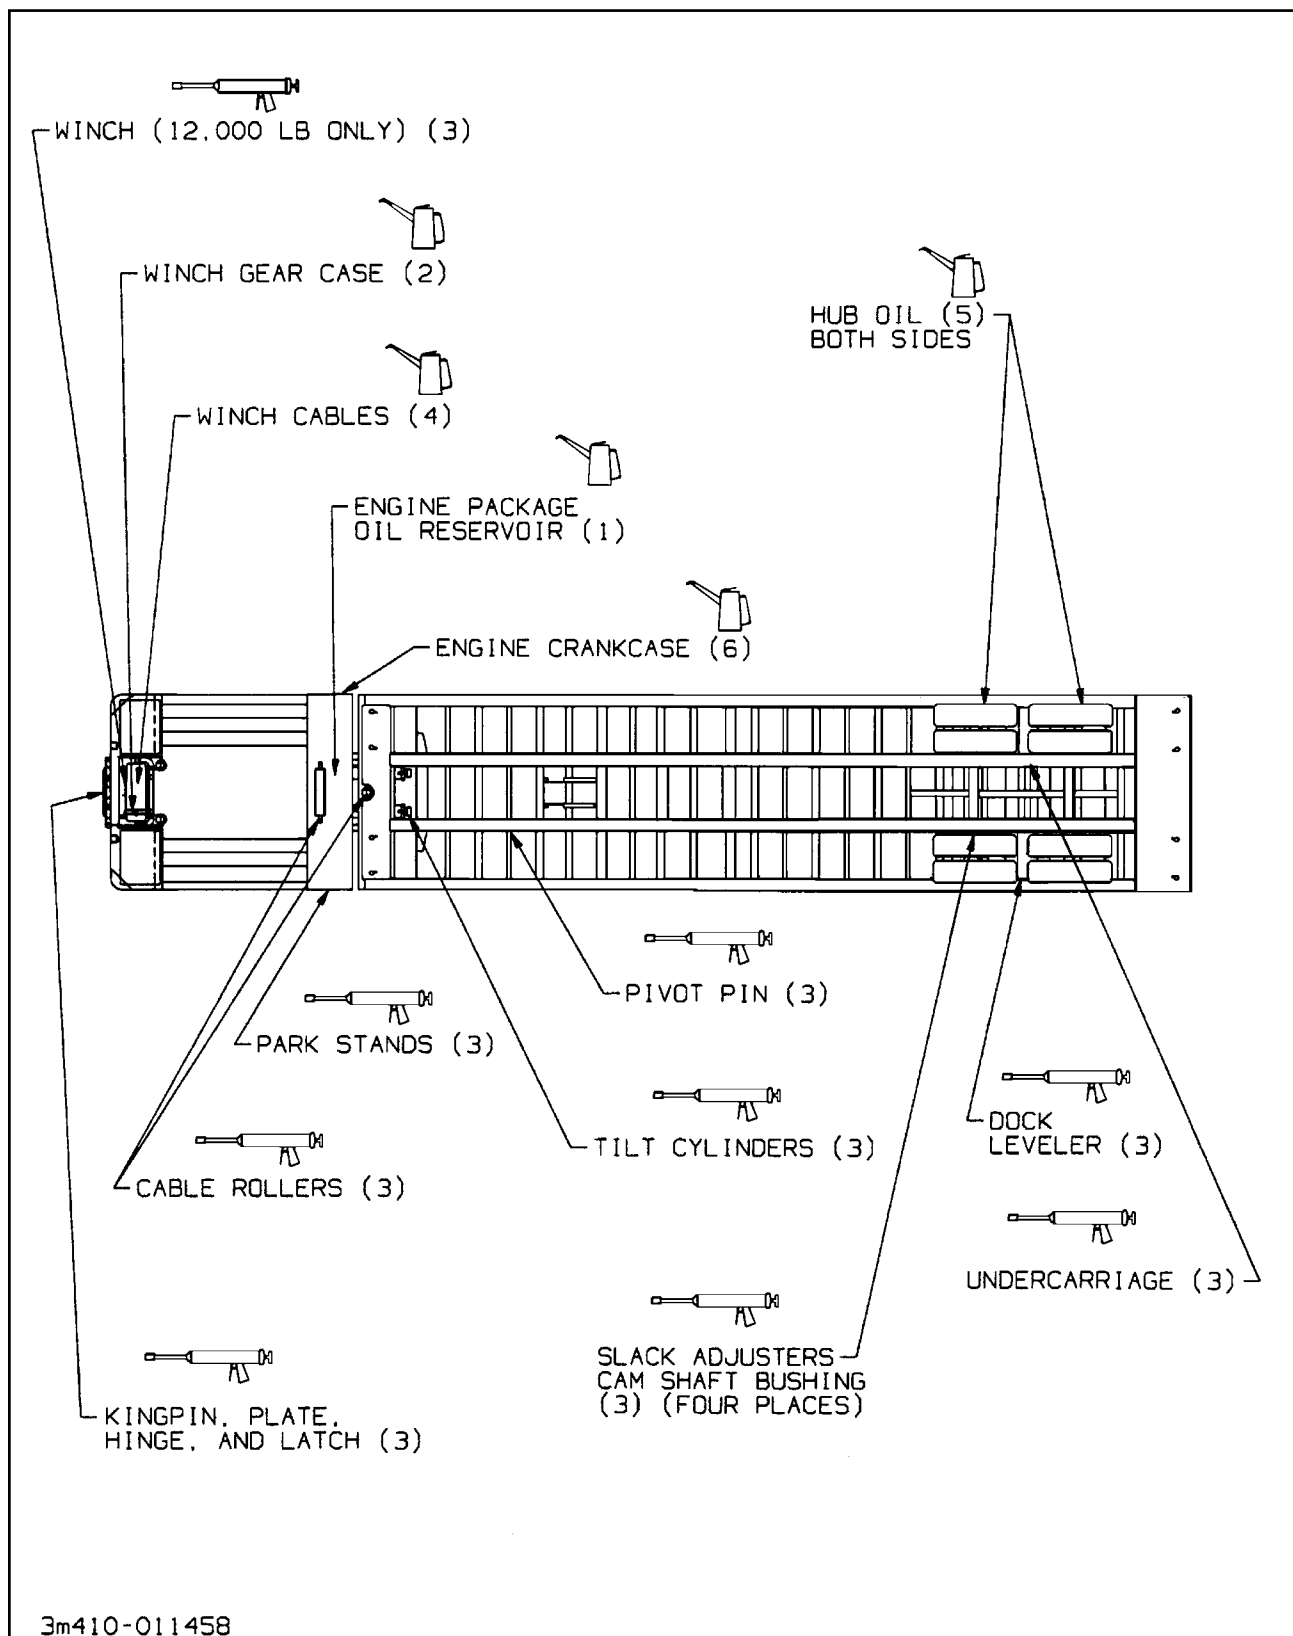

Figure 4-1 Lubrication Points
**Figure 4-1 and Table 4-1** detail lubrication points and intervals, method of application, and lubricant required, and illustrate the location of each part to be lubricated. During inspections of the trailer, if lubricants are found to be fouled with dirt or sand, those parts should be cleaned with paint thinner, dried, and relubricated immediately. Dirt in a lubricant forms an abrasive compound that will wear parts rapidly.